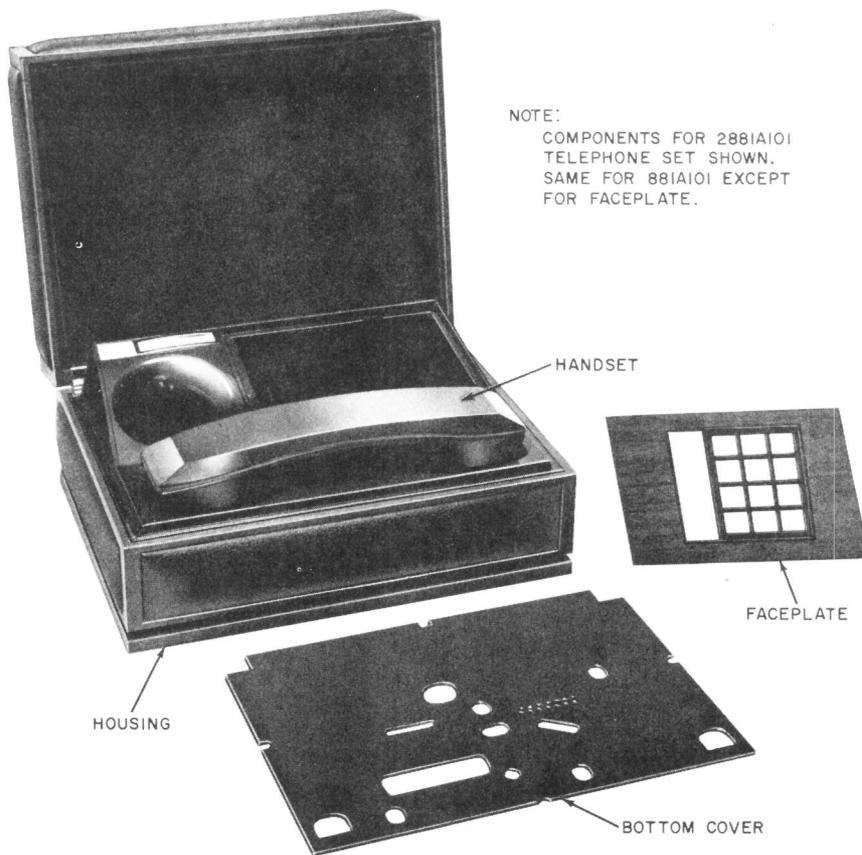

Fig. 3—Customer-Owned Components
**2.01** The 881A100, 881B100, 881A101, or 881B101 (rotary dial) and 2881A100, 2881B100, 2881A101, or 2881B101 (TOUCH-TONE® dial) equipped telephone sets are new DESIGN LINE telephone sets being made available to the customer. The customer buys the housing and the handset from the telephone company and the telephone company retains ownership of the transmission and signaling components (Fig. 3, 4, and 5).